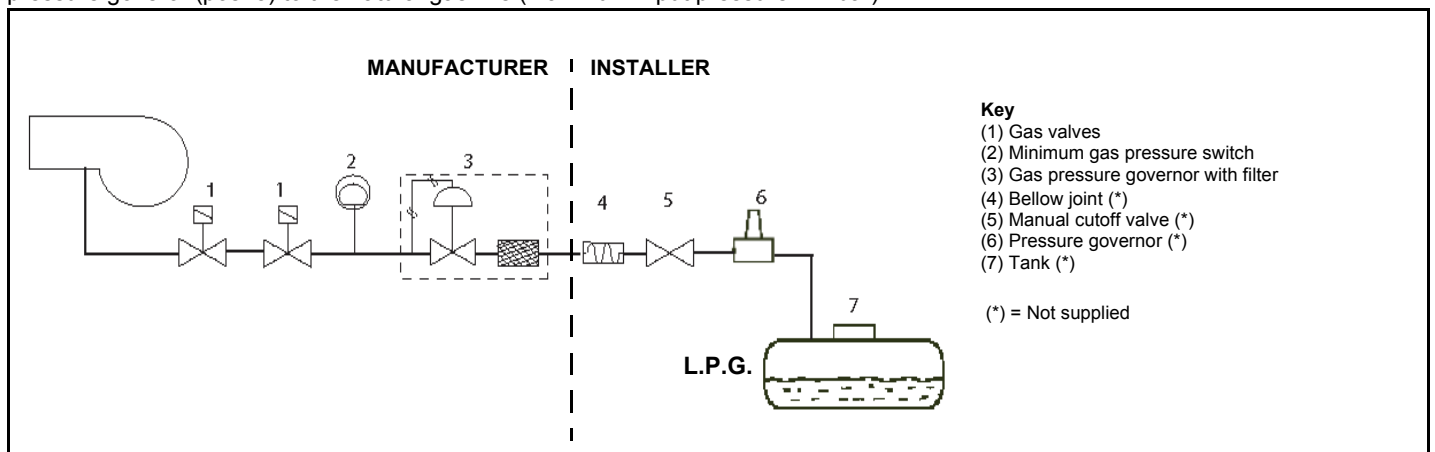

Fig. 7
**ATTENTION:** once the gas train is mounted according to the diagram on Fig. 7, the gas proving test must be performed, according to the procedure set by the laws in force.